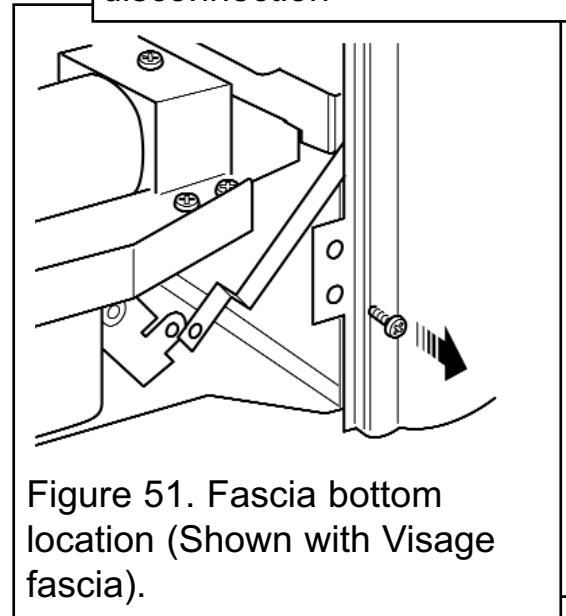

Figure 51. Fascia bottom location (Shown with Visage fascia).
3. Remove the two screws securing the bottom of the fascia to the sides of the convection box (See figure 51).